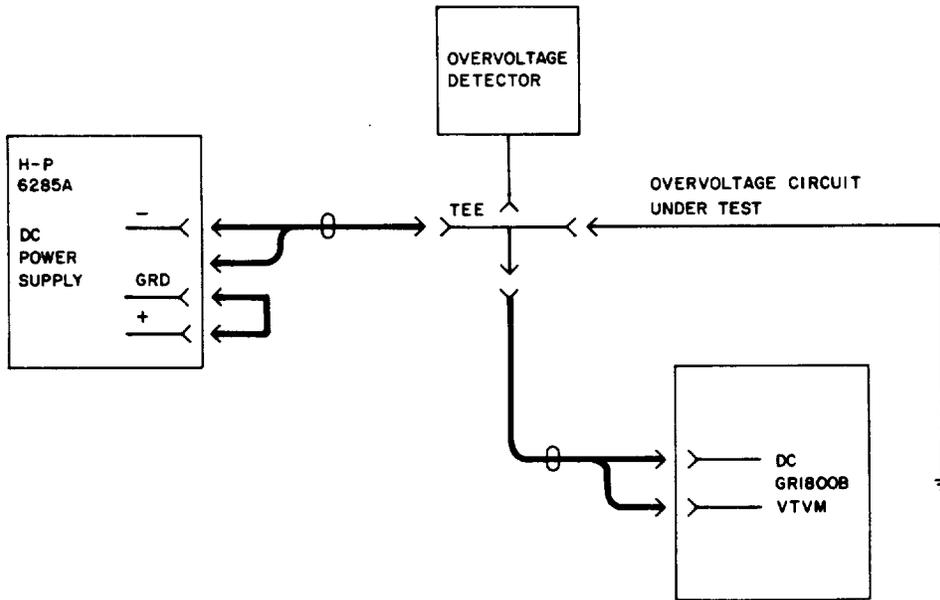

Fig. 3—Arrangement for Making Overvoltage Protection Circuit Calibration Tests
- 28 Disconnect cable connector P20CN from the output terminal of NO. 5 overvoltage detector E31CN. Connect test equipment as shown in Fig. 3. Set the vacuum tube voltmeter to its -5 Vdc range.
34	Disconnect cable connector P21CN from overvoltage detector E32CN. Connect the test equipment as shown in Fig. 3. Set the vacuum tube voltmeter to its -5 Vdc range.
40	Disconnect cable connector P22CN normally used at the REF terminal of the klystron output line directional coupler. Connect the test equipment as shown in Fig. 3. Set the vacuum tube voltmeter to its -5 Vdc range.